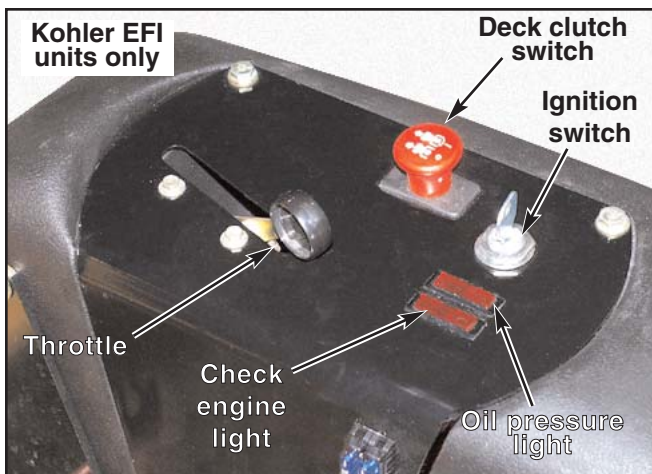

Figure 3-2b
9. **Check engine light (Fig. 3-2b)** — refer to Kohler engine owner's manual for details.